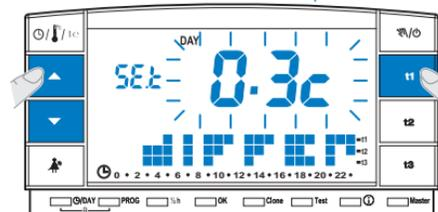

fig. 36
- Keep **t1** pressed until the existing differential value blinks on the display (example in fig. 36 - factory setting **0.3C**).
- Modify the value (from 0.2 to 0.7) using the keys **▲▼** (example in fig. 36).